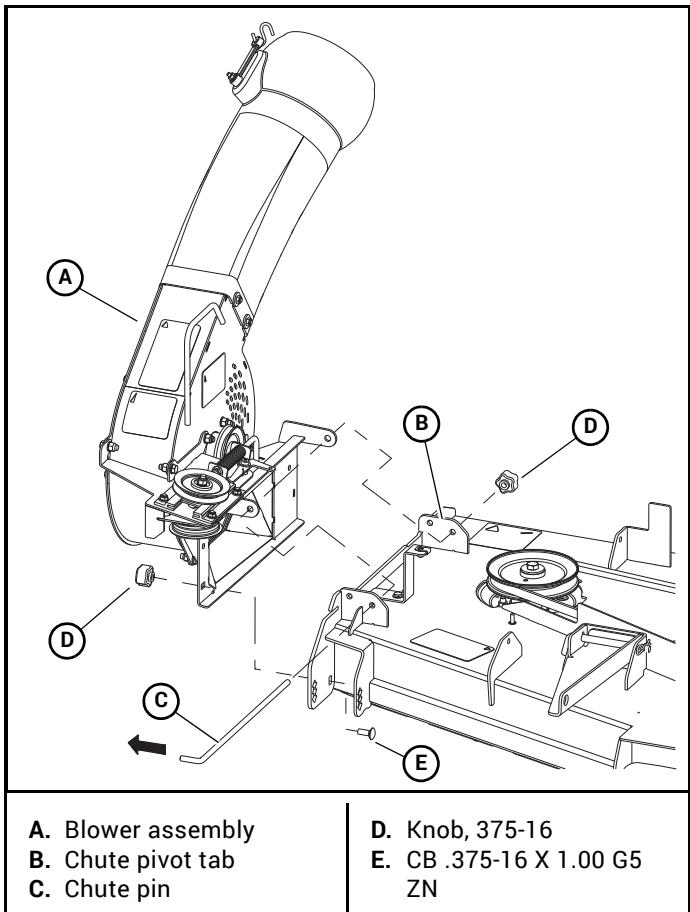

Figure 3-23
- 31.** Attach the blower assembly to the deck. Figure 3-23
**IMPORTANT:** Make sure the head of the chute pin is pointing towards the blower unit. Figure 3-23